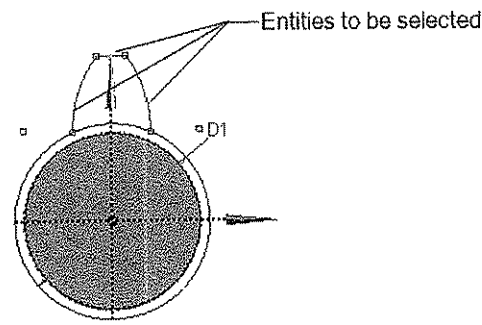

Figure 5-79 Selecting entities of the sketch
16. Invoke the **Replicate** tool again and then select the two arcs and the line created at an offset, refer to Figure 5-79.